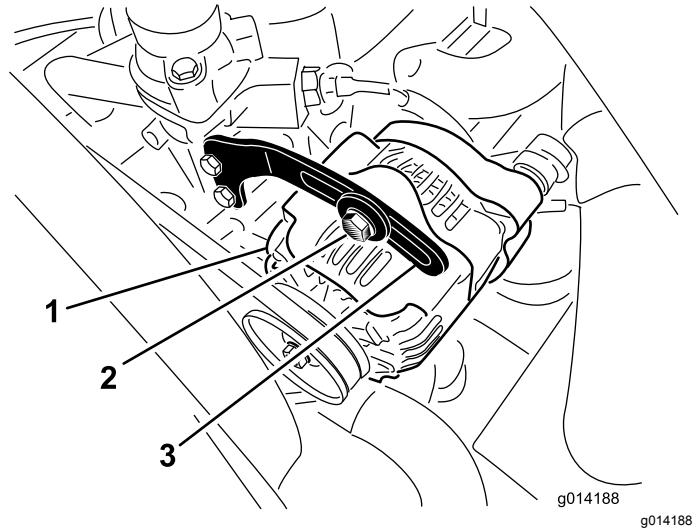

Figure 48
2. Check the tension of the alternator belt by pressing it (Figure 48) midway between the alternator and the crankshaft pulleys with 10 kg (22 lb) of force.
3. Loosen the bolt securing the brace to the alternator (Figure 48) and the alternator pivot bolt.